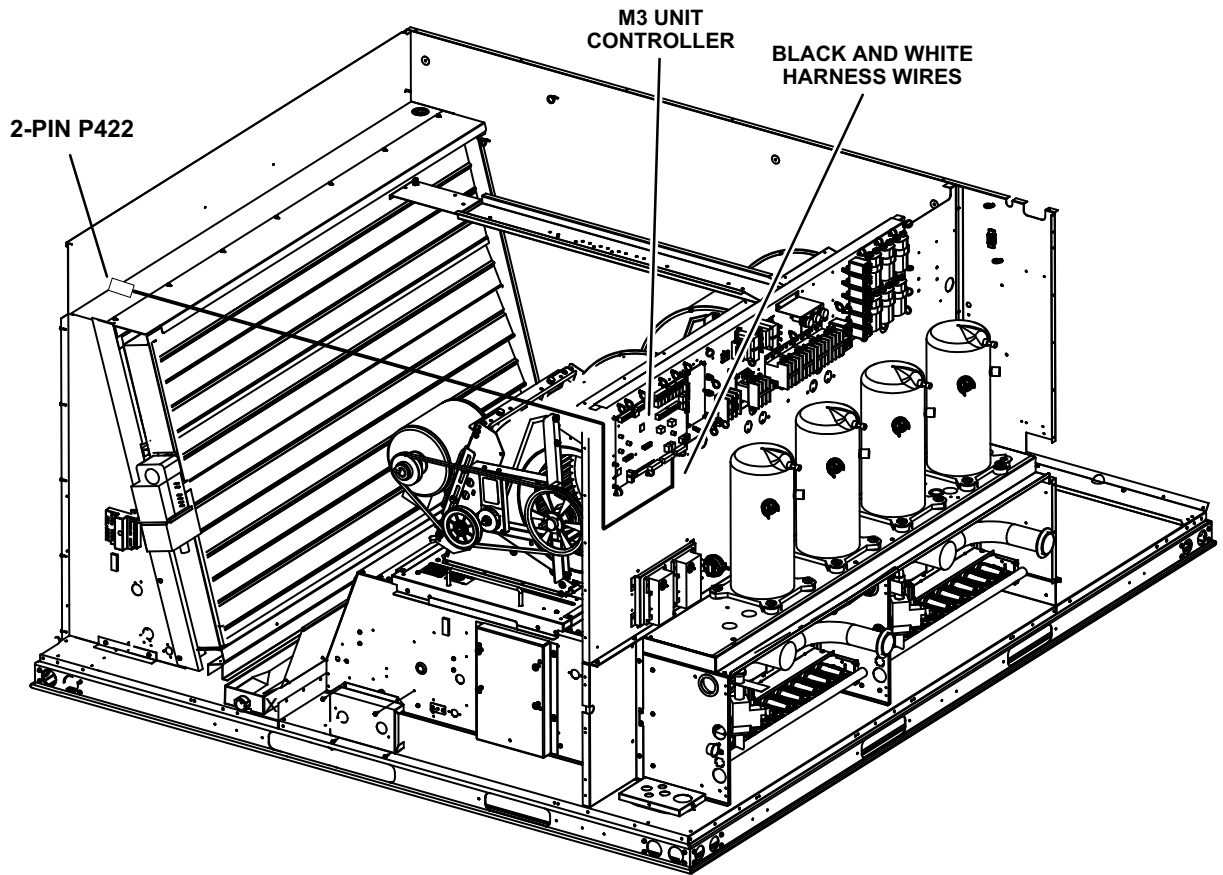

FIGURE 9
- 2- Route the cut wire ends to the control area and the 2-pin plug to the filter section. See figure 9. Secure with provided wire ties.